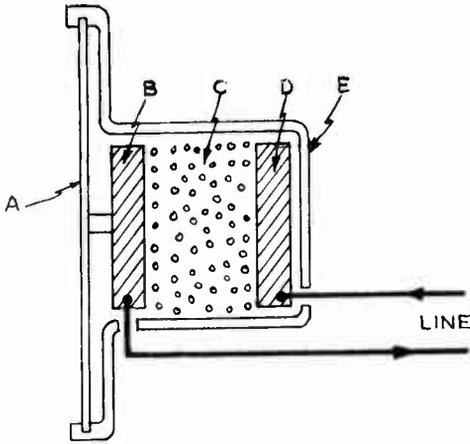

Fig. 15. Principal of construction and operation of a typical microphone of the carbon granule type.
32. THE MICROPHONE: The most popular form of microphone is the carbon type. Its operation is similar to that of the common telephone transmitter. Fig. 15 shows a cross sectional view of a simplified microphone. The diaphragm A, of thin aluminum or iron, is rigidly fastened to the polished carbon button B and is held fixed around its outside edge by the insulated case E. A second carbon button D is fastened rigidly in place and the space C is filled loosely with carbon granules.
cillators. This is shown in Fig 15 (C) previously referred to. Notice that it is an alternating current and that the height or strength of the current during each cycle is exactly the same as during any other cycle.
If the voice current of Fig. 15(B) is allowed to regulate the flow of the radio frequency current of Fig. 15(C), that is, to modulate it, the result is high frequency current of Fig. 15(D) called the modulated oscillating current. This current is no longer of constant amplitude but its strength varies in exact accordance with the variations in strength and frequency of the voice current, or the spoken sounds. That is, the steady oscillating current is modulated by the voice current. This is accomplished by a vacuum tube known as the modulator tube.